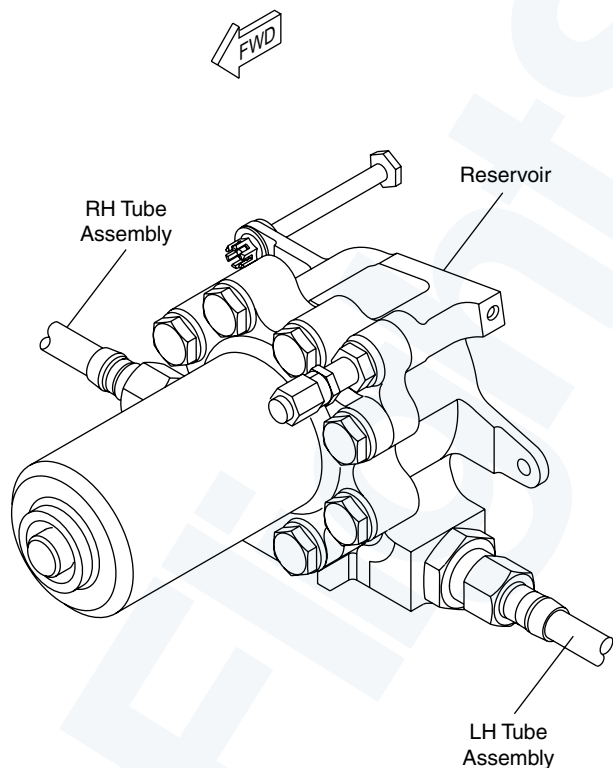

Figure 71-31. Reservoir and Tube Assembly
- Figure 71-31. Reservoir and Tube Assembly.